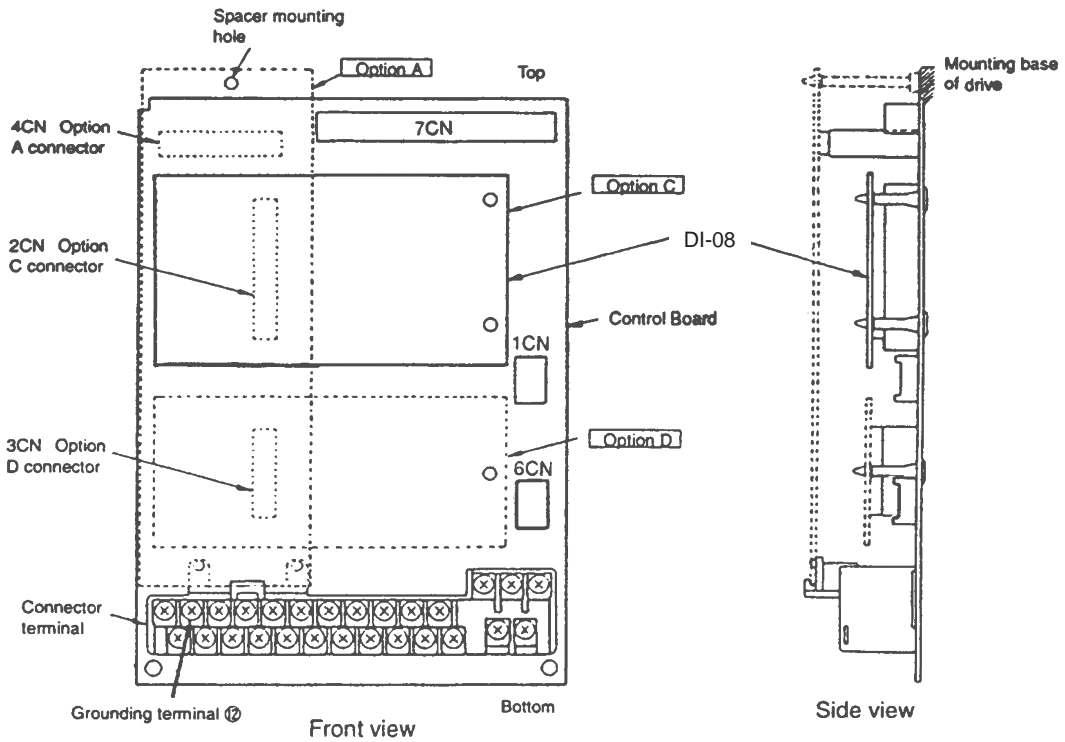
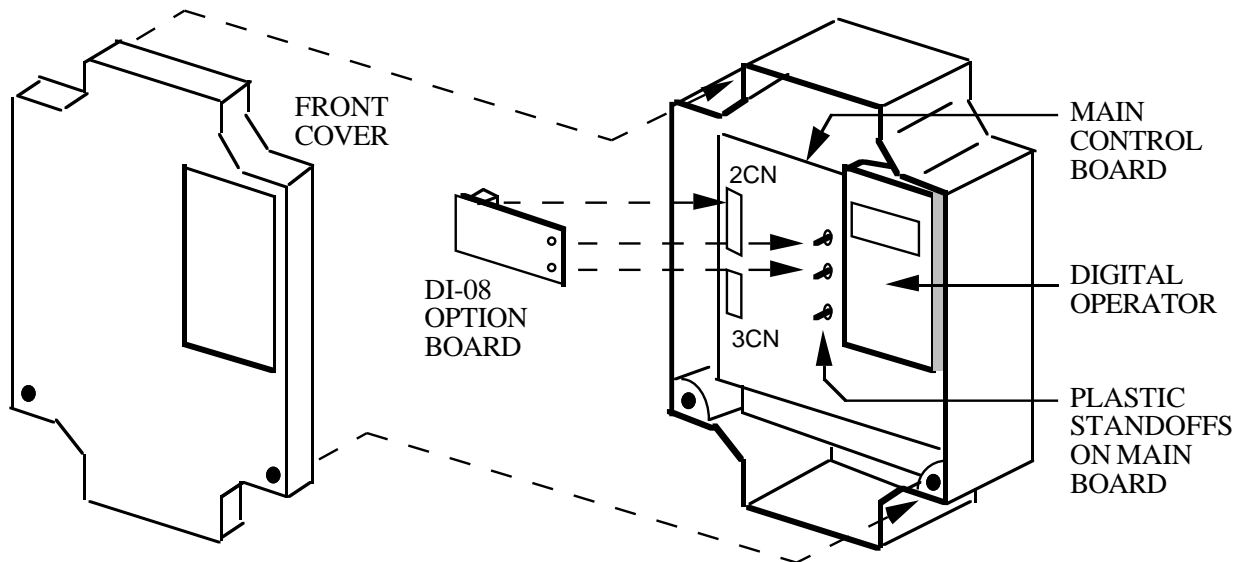

Figure 1. Installation of Digital Speed Reference (DI-08) in GPD 515
Figure 2. Installation of Digital Speed Reference (DI-08) in GPD 503
4. See Figure 1 (GPD 515) or Figure 2 (GPD 503). Install the option on the Main Control Board, 1PCB, and ensure 2CN is properly connected. Make sure Electrostatic procedure is followed.